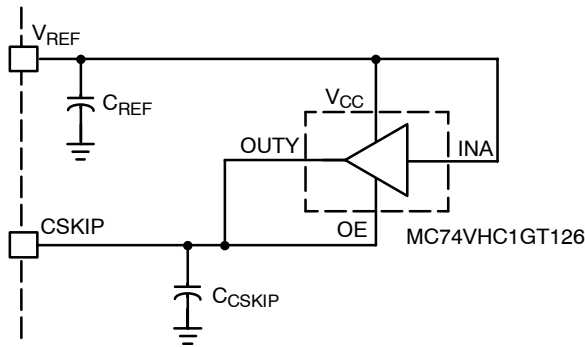

Figure 39. External Latch Implemented using ON Semiconductor's MiniGate™ Buffer
The latch in Figure 39 consists of a TTL level tri-state output buffer from ON Semiconductor's MiniGate™ family. The enable (OE) and output (OUTY) terminals are connected to CSKIP and the V_{CC} and INA pins are connected to V_{REF} . The output of the buffer is in a high impedance mode when OE is low. Once a continuous current limit condition is detected, the CSKIP timer is enabled and CSKIP begins charging. Once the voltage on CSKIP reaches the enable threshold of the buffer, the output of the buffer is pulled to V_{REF} , latching the CSKIP timer. The OE threshold of the buffer is typically 1.5 V.